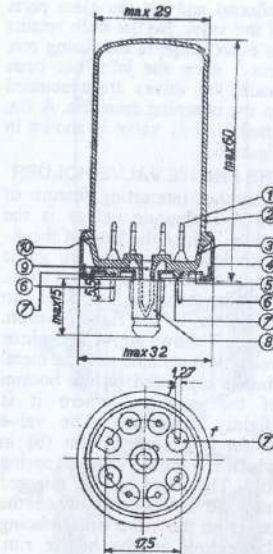

Fig. 4 - B-Technique style
In the new valves, the base is a circular glass tablet pressed all together with the contact pins of chromium-steel, which has the same coefficient of expansion as the glass, disposed in circumference, passing through the glass. Figure 3A shows a valve base of the C- and B-Technique type, distinguished only by the number and size of pins. Figure 3B illustrates the base of an A-Technique valve. Note the absence of the exhaust tube in the base. A valve (without internal electrodes), with pressed glass base and without pinch, made according to B-Technique is illustrated in Figure 4. In the B-
and C-Technique, the exhaust tube is located in the center of the base, and when the electrode assembly has been mounted on the base and connected to the respective contact pins, the bulb is sealed onto the upturned rim of the base forming the fused joint shown as (10) in Figure 4. The valve is finished in the normal way, and after pumping, and the sealing of the exhaust tube by fusion, a guard plate with central guide pin, (8) in Figure 4, is fixed to the glass base by applying a metal ring (4) around the base and spinning it over the rim of the guard plate. The detail of Figure 4 is as following: (1) supports for the electrode assembly; (2) glass bulb; (3) pressed-glass base; (4) metal retaining ring; (5) guard plate fitted beneath the glass base; (6) contact pin; (7) circular bosses in the pressed-glass base which increase the leakage path between